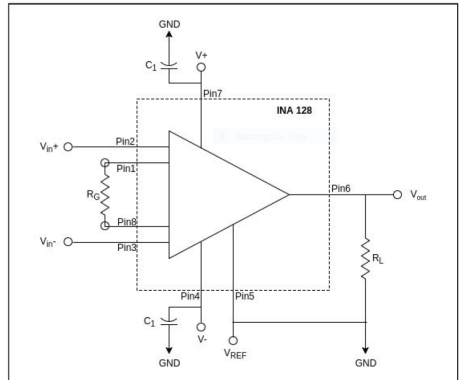

Figure: 4
- 2 Using  $R_G = 220\text{ohms}$ ,  $R_L = 10\text{kohms}$ ,  $C_1 = 0.1\mu F$ ,  $V_+ = 13.6V$ ,  $V_- = -13.6V$ , wire up the instrumentation amplifier circuit. Refer to Fig. 4. Explain the purpose of capacitor  $C_1$  connected in parallel with the power supply.